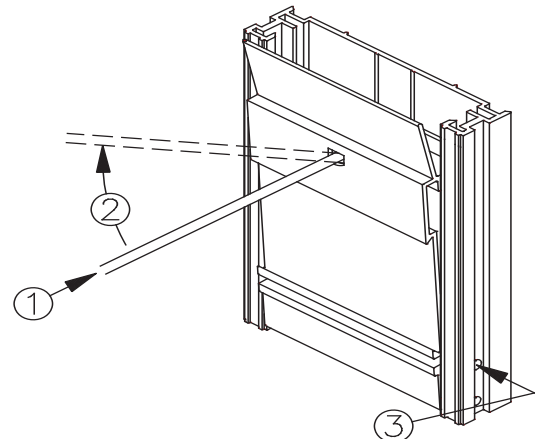

Figure 4: Resetting the manual station
2. Close the handle and at the same time, move the handle of the screwdriver up. See Figure 4.
3. Insert the glass rod (break glass) into the hole on the right side. See Figure 4.